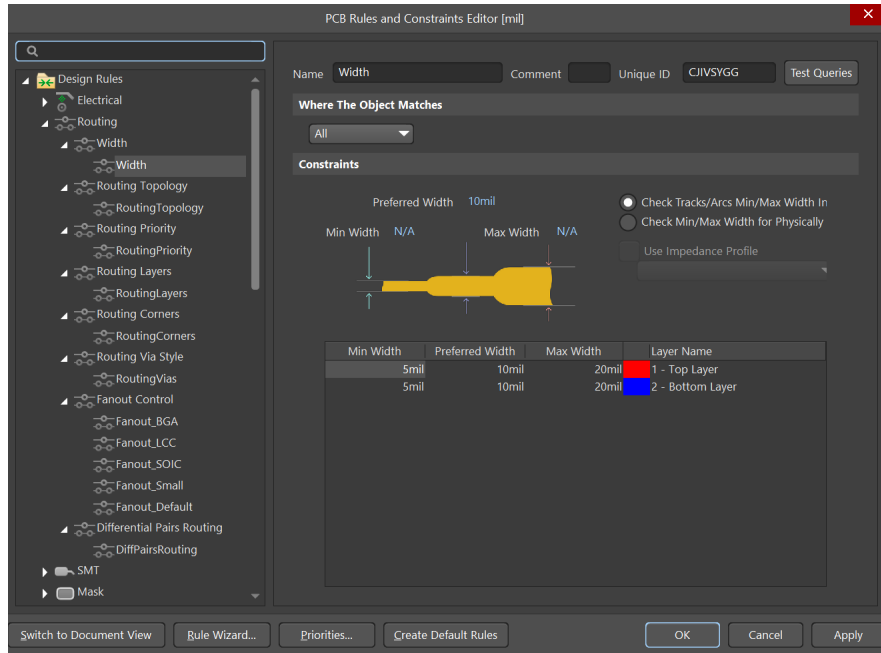

Figure 26: Screenshot of trace width rule settings
1. The default trace width often does not give you the full range of trace widths that you will want. When you are in the rules menu, go to **Routing** → **Width** as shown in Figure 26 and set the minimum trace width to 5 mil and the maximum trace width to 20 mil for each layer.